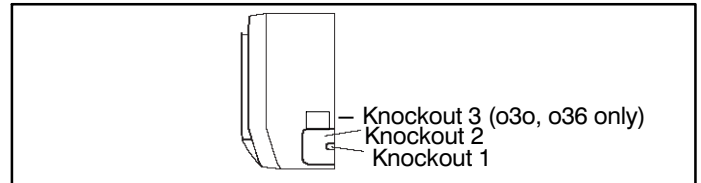

Figure 11 – Remove Knockouts
2. Remove knockout 1 to run just the wiring. Remove knockout 1 and 2 or knockout 1, 2, and 3 if running both piping and wiring through the side of the unit. See Figure 11.